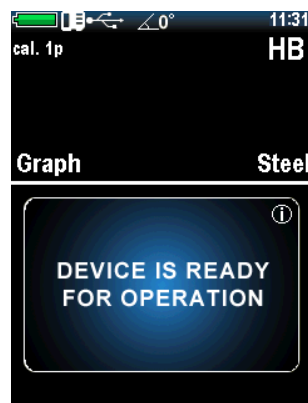

Figure 2.14 – Setting the angle
8. Press keys  or , to set the measurement angle. The angle value is shown at the top of the display (Figure 2.14). Angle 0 degree corresponds to vertical position of the probe, when trigger button is in the up position.